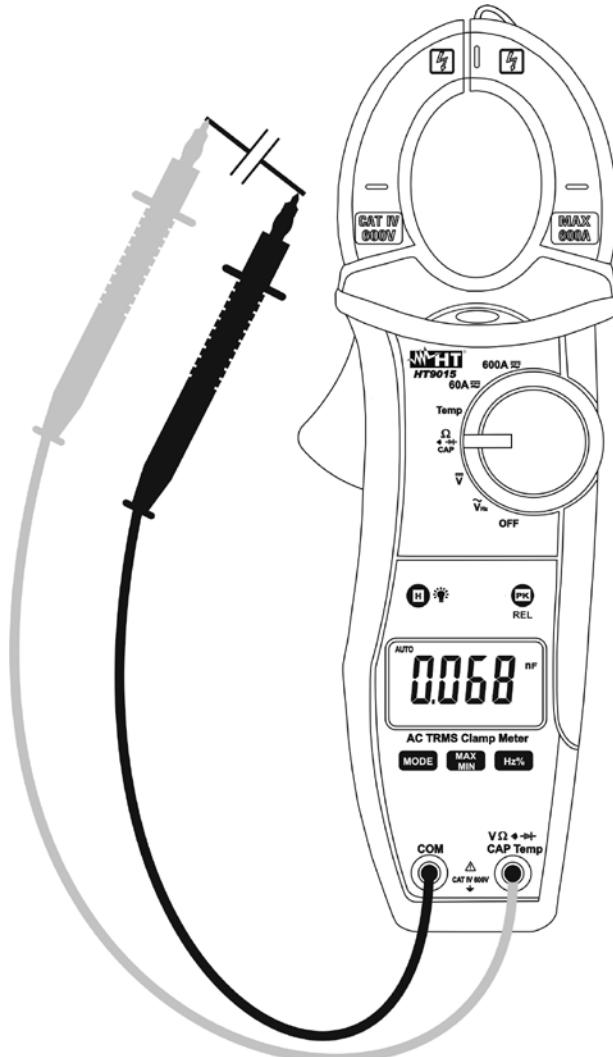

Fig. 7: Taking Capacitance measurement
3. Insert the red test lead plug into **VΩ CAPHz%Temp** jack and the black test lead plug into **COM** jack (Fig. 7)